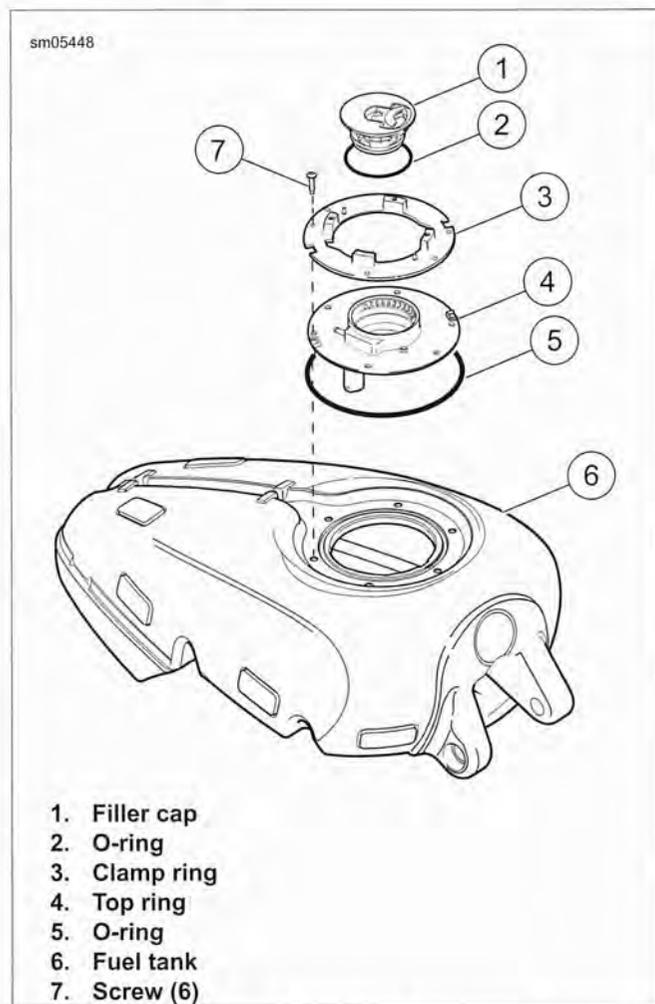
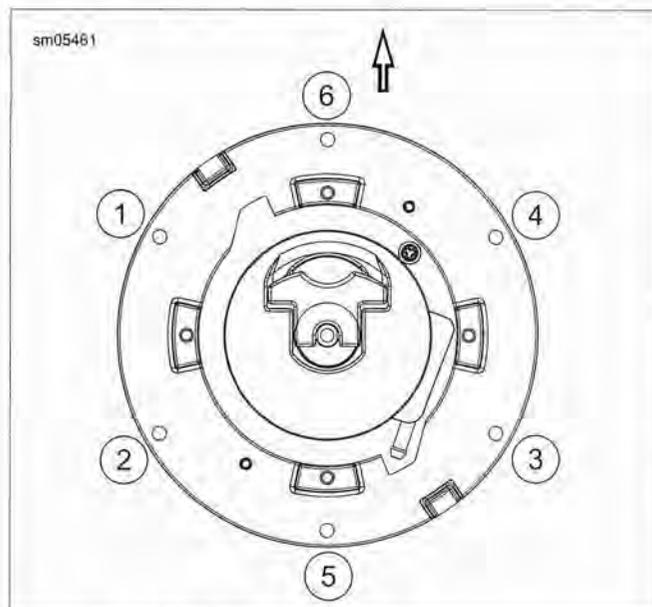

Figure 4-16. Fuel Tank Assembly
Figure 4-17. Filler Housing Torque Sequence
1. See Figure 4-16. Remove filler cap (1) with O-ring (2).
2. Remove screws (7) and clamp ring (3).
3. Remove top ring (4).
4. Remove O-ring (5).
1. See Figure 4-16. Install **new** O-ring (5) on top ring (4). Verify that it is seated properly.
2. Install top ring and clamp ring with screws (7).
3. See Figure 4-17. Tighten screws in the sequence shown to 40-45 **in-lbs** (4.5-5.1 Nm).
4. See Figure 4-16. Install filler cap (1) with a **new** O-ring (2).